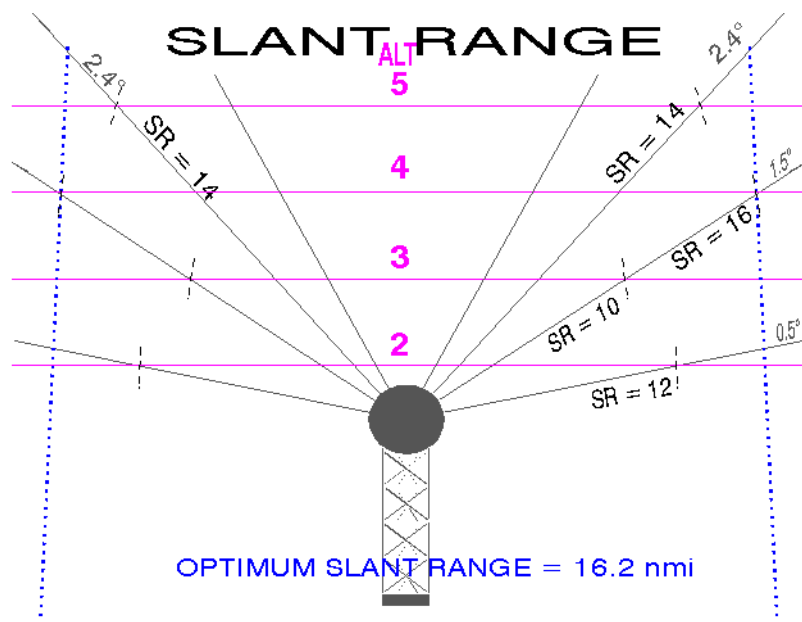

Figure 4-8. Slant Range
1. The VAD winds are computed using a single elevation angle at a constant **slant range**. For each altitude requested on the VAD Wind Profile, the VAD Algorithm selects the elevation angle that is closest to intersecting that altitude at the **VAD range** (adaptable parameter with a default of 30 km or 16.2 nm). The actual slant range will change dependent upon the altitude for which the VAD wind is being calculated (See Fig. 4-8 on page 107.).